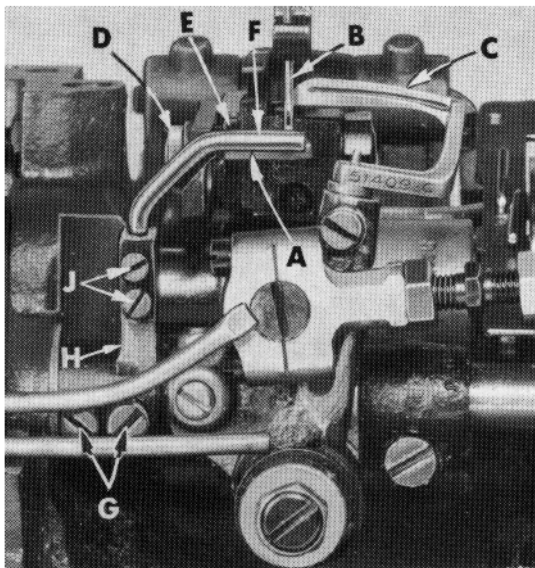

Fig. 11
Set the rear needle guard (A, Fig. 11) horizontally so that it barely contact the rear of the needle (B) when at its most forward point of travel. It should be set as low as possible, yet have its guarding surface in contact with the needle, until the point of the looper (C), moving to the left, is even with the needle. To move needle guard forward or backward, merely loosen screw (D), move needle guard as required and retighten screw (D). To raise or lower the needle guard, loosen screw (D); and turn screw (E) clockwise to lower or counterclockwise to raise. Retighten screw (D) after guard is properly set.
Set the front needle guard (F, Fig. 11) so that it barely contacts the needle (B) until the point of the looper (C), moving to the left, is just past the left side of the needle. The looper may brush, but not pick at the needle. The front needle guard should be set as low as possible to meet this condition yet not contact the rear needle guard or looper at any time. To move needle guard forward or rearward, loosen screws (G), rotate needle guard holder (H) as required and retighten screws (G). To raise, lower or rotate needle guard, loosen screws (J), reposition as necessary and retighten screws after guard is properly set.